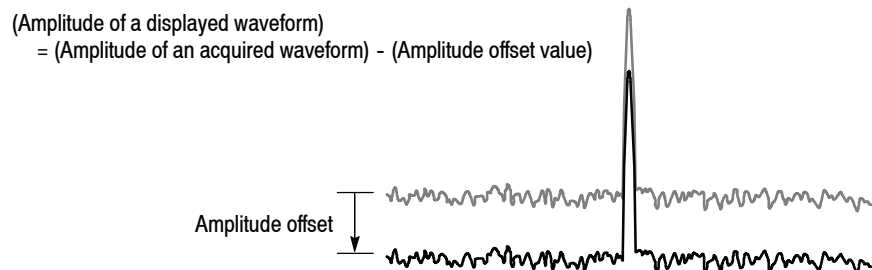

Figure 3-106: Amplitude offset
Amplitude Offset. Subtracts the specified offset from the original amplitude (see Figure 3-106). The offset value is set using the menu item **Amplitude > Corrections... > Amplitude Offset**.
- *In the other modes (Real Time S/A, Demod, and Time):* The amplitude offset is always effective. The default value is zero. If you set the offset to a non-zero value, a waveform shifts vertically as shown in Figure 3-106.